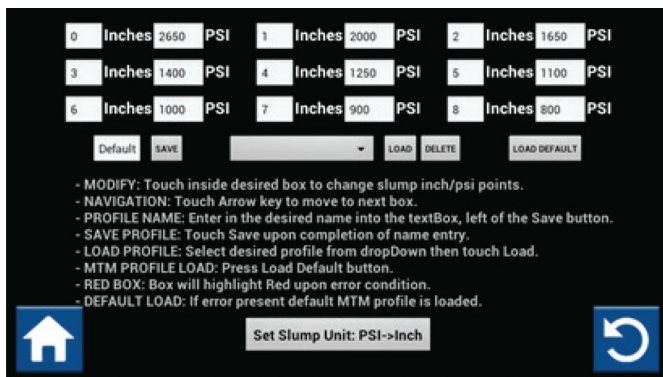

Figure 4
4. Record slump profiles. See Figure 4.